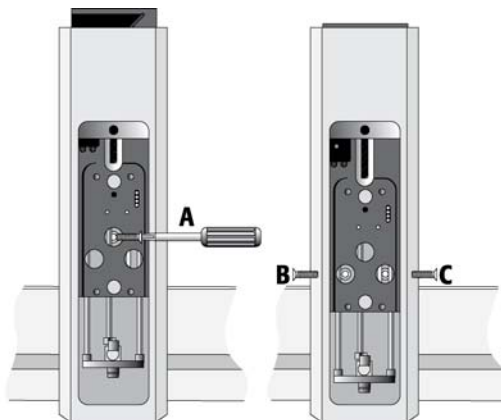

Figure 11 Inserting the Injection Unit Mounting Torx Screws
(See Figure 11 on page 58).
- 4 Place one of the screws onto the end of the supplied Torx driver. Slide the clear plastic cover on the Injection Unit all the way to the top. Locate the three large holes in the black anodized frame attached to the Z-axis inside the Injection Unit. Slide the frame upwards until the top hole is centered on the top threaded hole at the end of the Y-axis. Insert and securely tighten the Torx screw *A* (see Figure 11 on page 58).